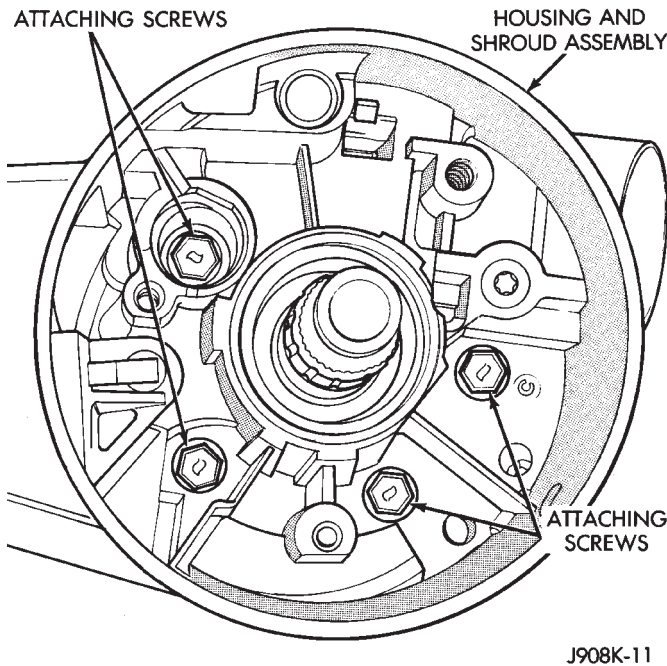

Fig. 12 Steering Column Housing Removal/Installation
(32) Remove screws that attach housing and shroud assembly to column jacket and carefully remove housing and shroud assembly (Fig. 12).